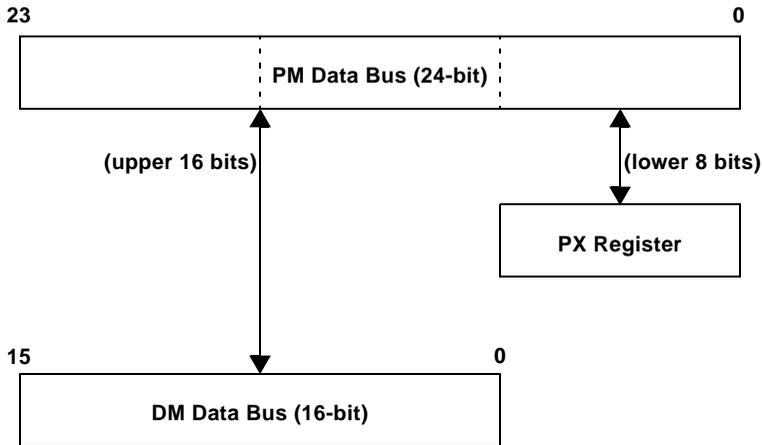

Figure 5-3. PM Bus Exchange (PX) Registers
The internal data buses let programs transfer the contents of one register to another or to any internal memory location in a single cycle. As shown in Figure 5-3 on page 5-8, the PM Bus Exchange (PX) register permits data to flow between the PM and DM data buses. The PX register holds the lower eight bits during transfers between the PM and DM buses. The alignment of PX register to the buses appears in Figure 5-3 on page 5-8.